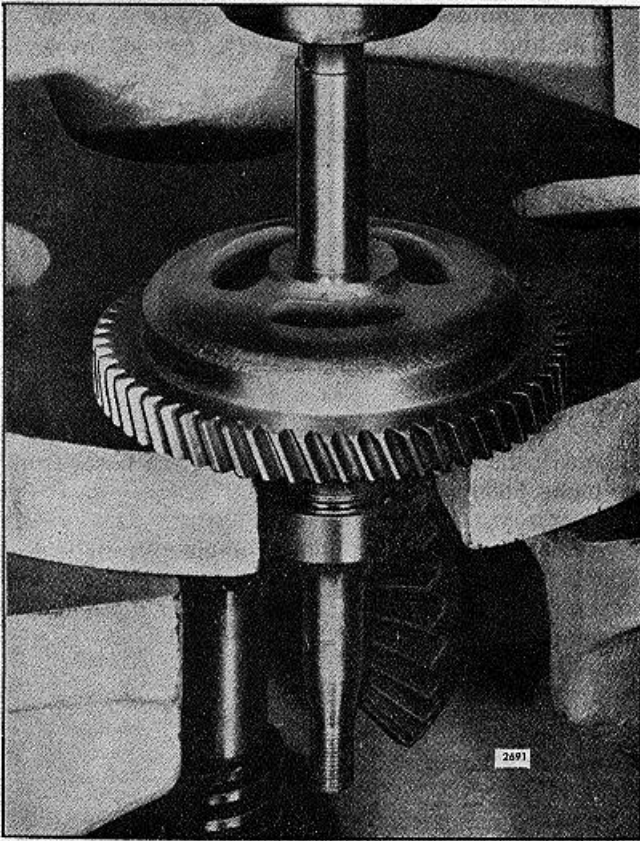

FIG. 5 - Pressing Shaft Out of Gear
6. Place the gear on the bed of an arbor press with the shaft extending downward, then place a short piece of .625 " diameter bar stock between the shaft and the ram of the press and press the shaft out of the gear as shown in Fig. 5.